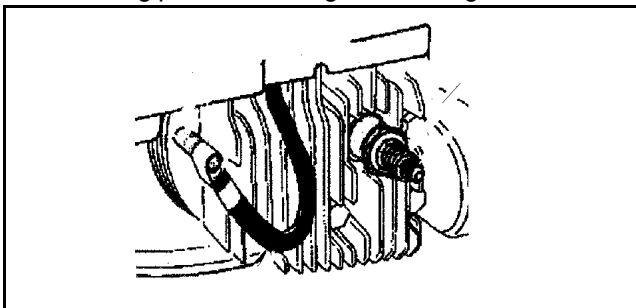

Figure 1
- Before setting up your lawn mower, disconnect the spark plug wire from the spark plug, and ground it to retaining post on the engine. See Figure 1.